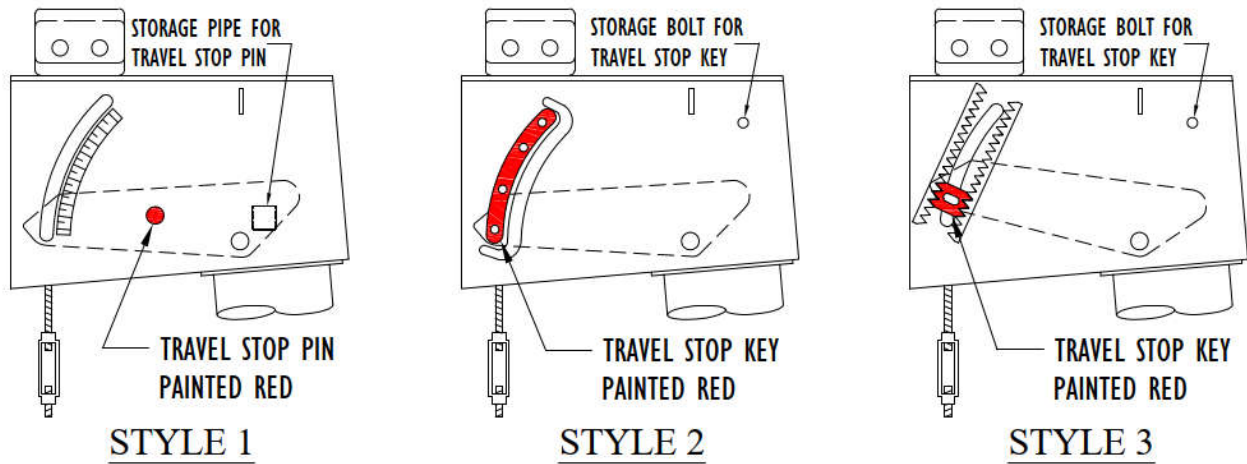
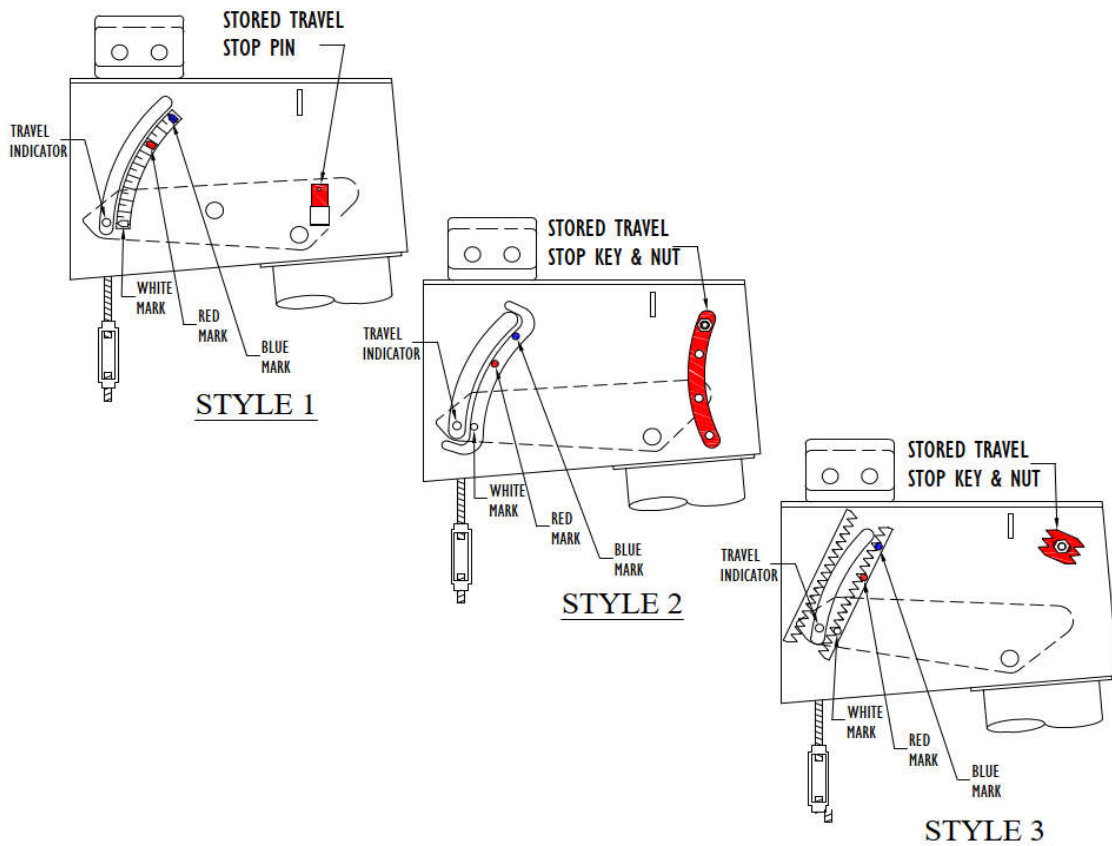
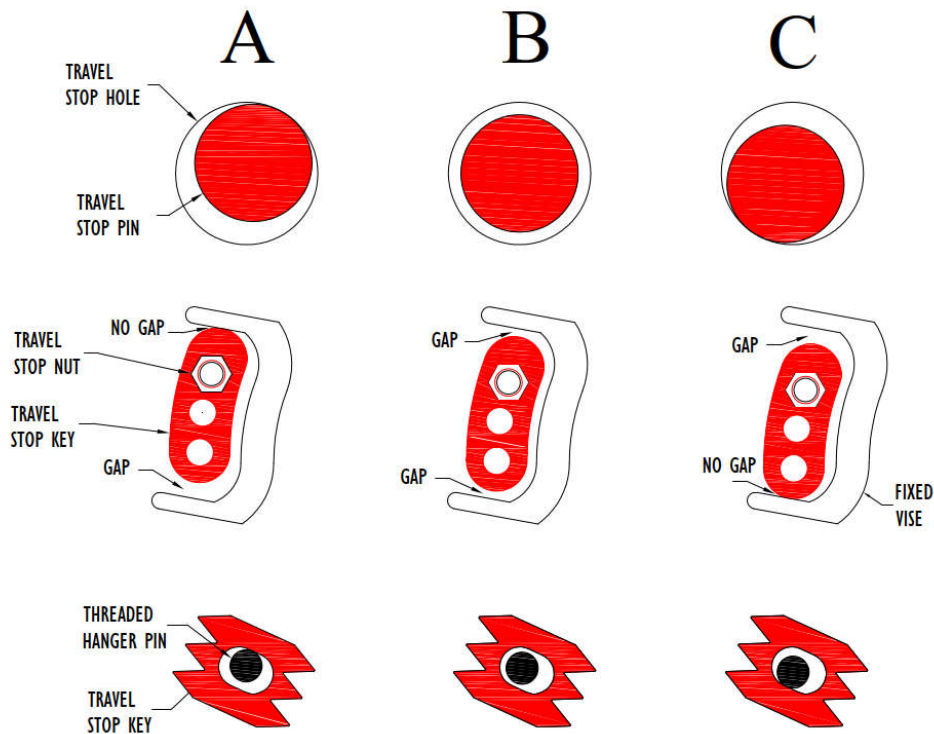
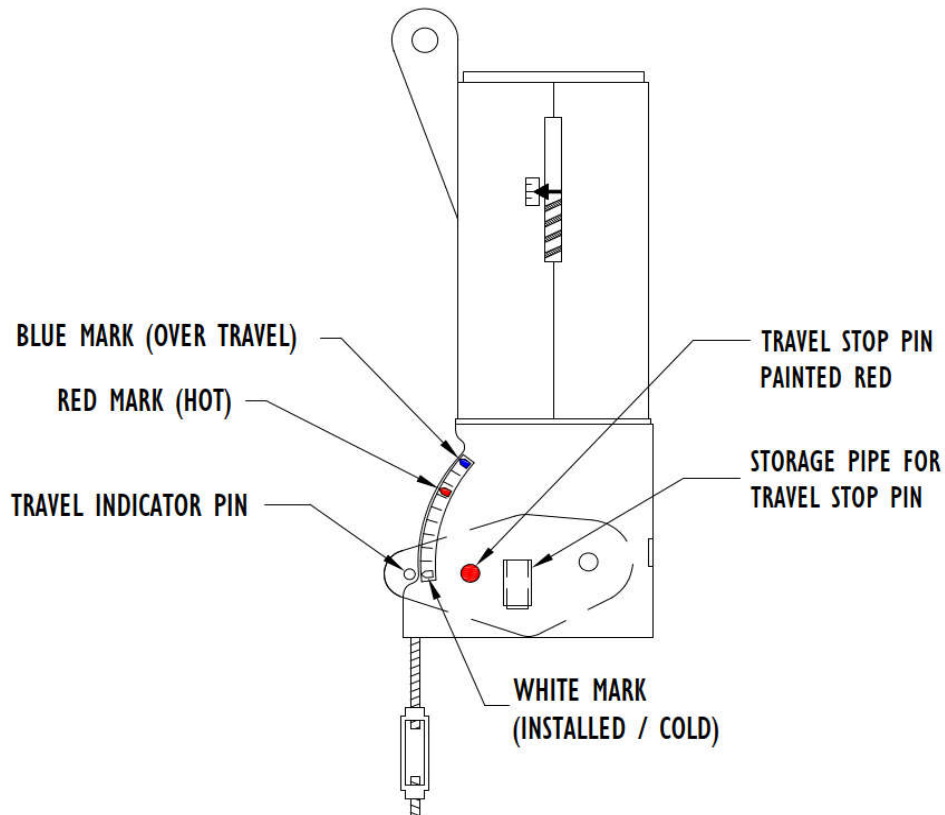

Figure 4: Travel Stop Styles for Hanger Type Constant Supports
Figure 5: Travel Indicator & Travel Stop Pin/Key Storage Location
Figure 6: Travel Stop Disengagement Position for Style 1, 2, & 3
Figure 7: 100-N Travel Stop Removal
In most cases, travel stops with styles 1, 2, or 3 (figure 4) are removed by hand or light tapping once balance is achieved between the constant support and the entity (piping, vessel, etc.) it is supporting. Figure 5 shows examples of the travel stops storage location. May vary with different support types.
6. The travel stop (painted red) should now be removed once any hydrotesting is completed. The travel stop pin/key shall be in position "B" in figure 6 before it can be removed. Referring to figure 6, unscrew the left-side & right-side nuts by one turn (if equipped). Looking closely, if the pin/key is as in position "A", rotate the load coupling (turnbuckle) such that to draw the rods together to get to position "B". If the pin/key is as in position "C", rotate the load coupling (turnbuckle) such that to separate the rods from each other to get to position "B". Once disengaged (position "B"), the travel stop/s may be removed and stored in its/their designated location on the constant's frame (figures 4 & 5 on page 4).
6. The travel stop (painted red) should now be removed. Referring to figure 6 on page 5, if the pin is as in position "A", rotate the load coupling (turnbuckle) such that to draw the rods together to get to position "B". If the pin is as in position "C", rotate the load coupling (turnbuckle) such that to separate the rods from each other to get to position "B". Once disengaged (position "B"), the travel stop may be removed and stored in its storage pipe on the side of the frame (figure 7).
8. The travel stop (painted red) should now be removed. Unscrew the nuts by one turn (if equipped). Referring to figure 6 (page 5), if the pin/key is as in position "A", rotate the load coupling (turnbuckle) such that to draw the rods together to get to position "B". If the pin/key is as in position "C", rotate the load coupling (turnbuckle) such that to separate the rods from each other to get to position "B". Once disengaged (position "B"), the travel stop/s may be removed and stored in its/their designated location on the constant's frame (figures 4 & 5 on page 4).